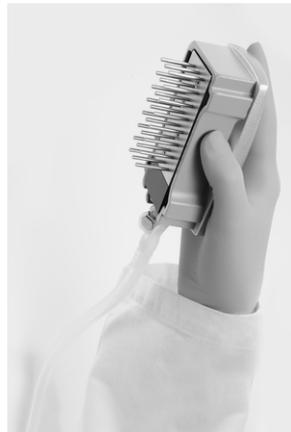

Figure 4. Illustration of the vacuum tool raised to beyond 90° vertical.
9. **Raise the vacuum tool up and back, beyond 90° vertical, for 5 seconds to drain liquid from the filter probes (Figure 4).**
- 14. Raise the vacuum tool up and back, beyond 90° vertical, for 5 seconds to drain liquid from the filter probes (Figure 4).**
- 15. Close the vacuum switch on the vacuum tool (Off), and place the tool in the Parking (P) position.**